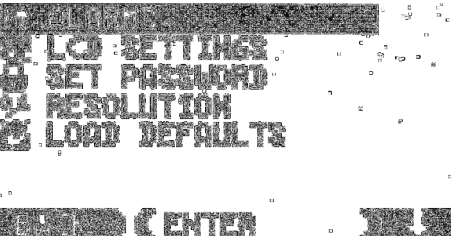
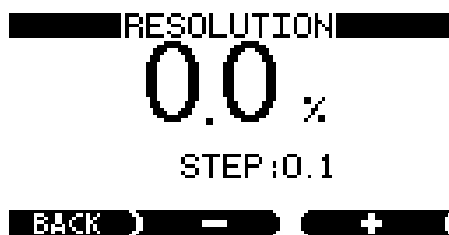

Figure 7: SETUP mode with Alarms selected Screenshot.
Figure 14: Resolution Screen
- 2iii) Press the right-hand navigator button to access the menu (Figure 7)
- 3iii) Press the right-hand navigator button to access the menu (Figure 7).
- 4iii) Press the right-hand navigator button to access the menu (Figure 7)
The displayed resolution may be adjusted to suit different applications. From the SETUP menu (see Figure 7) using the down arrow button  select the RESOLUTION option and press the enter button. The display will change to look like the example in Figure 14: